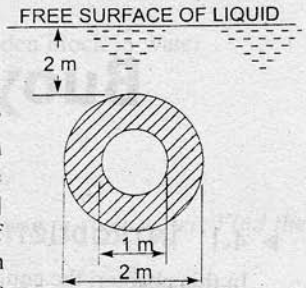

Fig. 3.62
27. Determine the total force and location of centre of pressure on one face of the plate shown in Fig. 3.62 immersed in a liquid of specific gravity 0.9.